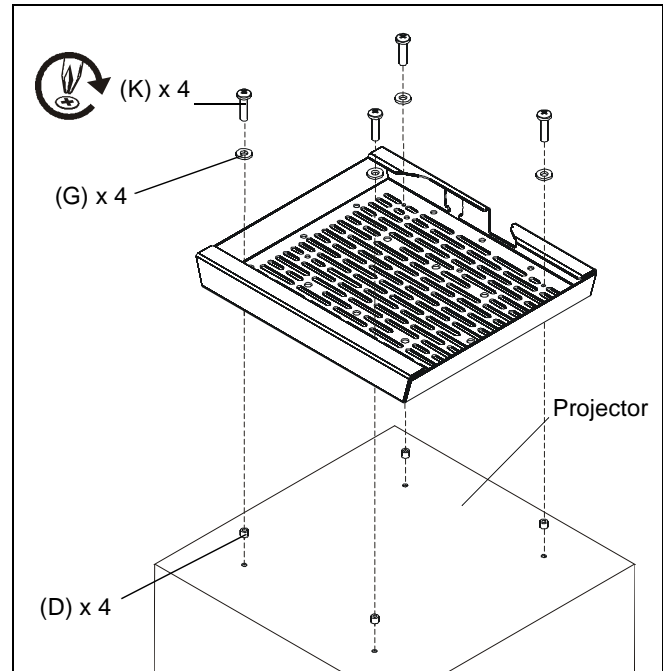

Figure 6
1. Align projector and security mount drawer so that the projector is oriented correctly and mounting holes are aligned. (See Figure 6)
2. Secure projector to mount using four M3 x 20mm Phillips head machine screws (K), four M4 washers (G) and four small spacers (D). Spacers should be placed between projector and mount. (See Figure 6)